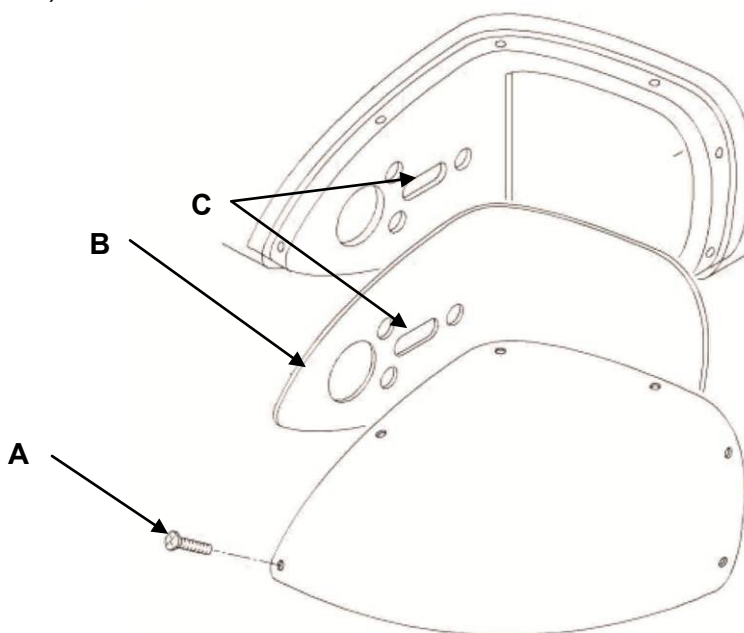

Figure 3 Wingtip
1.8.13 Remove the cover of the position light at the wingtip. Keep all the screws (refer to Figure 3, item A).
1.8.15 Carefully remove and keep the reflector from wingtip (refer to Figure 3, item B).
1.8.31 Install the cover of the wingtip, refer to Figure 3.